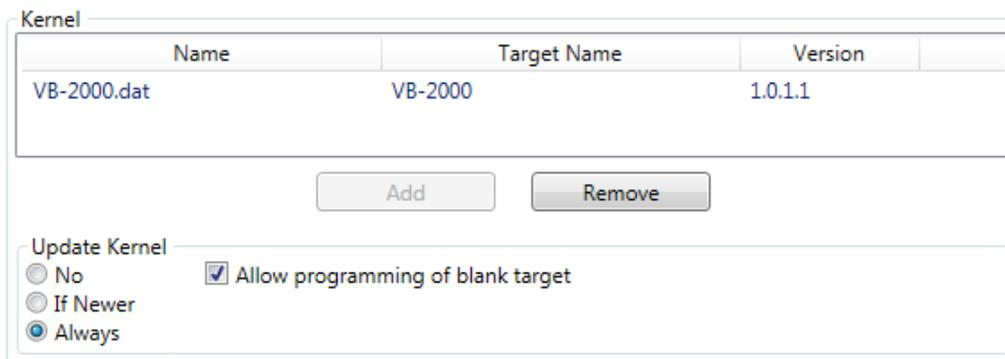

Figure 4
3. Select the Update Kernel Options. Refer to Figure 4.